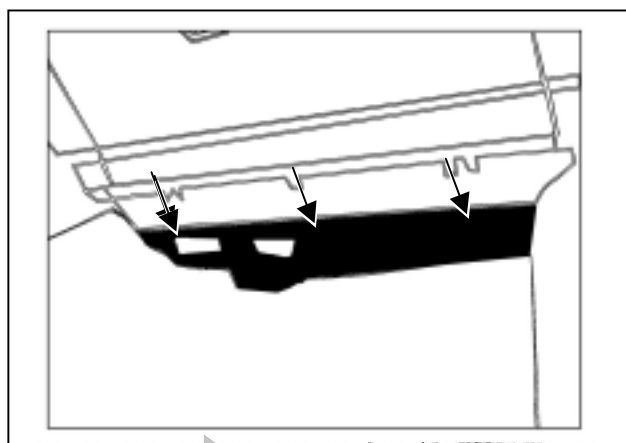

Figure B2
2. Remove under dash cover by pressing on the indented areas (3 places) as indicated in Figure B2 and then pulling in a downward motion.